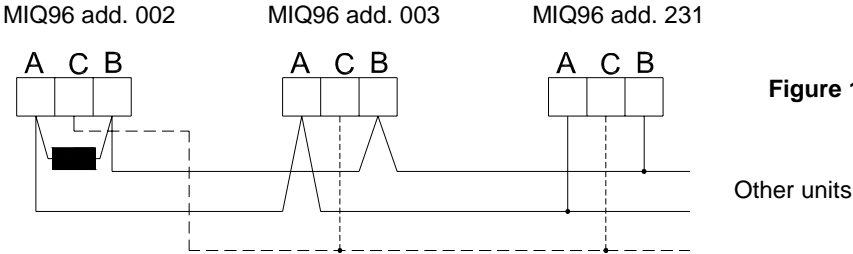
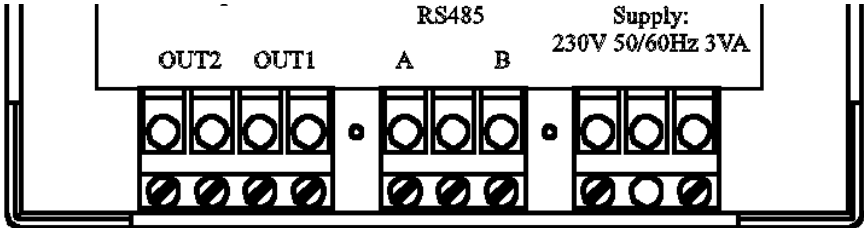

Figure 16.4
Figure 16.5
4. Make the connection for aux. supply (see figure 16.5 page 34).
5. Make the connection for communication RS 485 as shown in figure 16.4 below (also see figure 16.5 page 34).